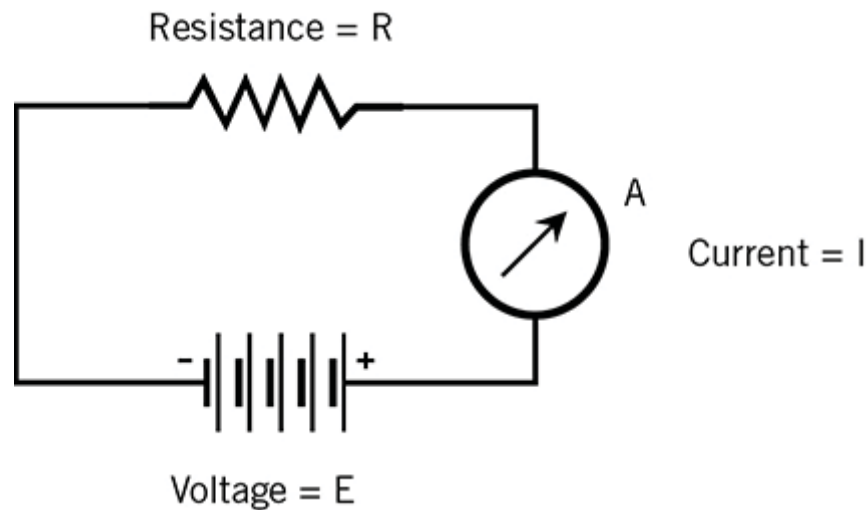

FIG. 1-2 *Schematic that includes a battery, a resistor, and an ammeter (labeled A).*
- A *schematic diagram* (often simply called a *schematic*) shows every component in a circuit. Each component has its own special symbol. Lines between the components reveal how they connect together, and to a source of power, so they perform a specific function or operation. This book deals mostly with schematics. Figure 1-2 is a simple example.